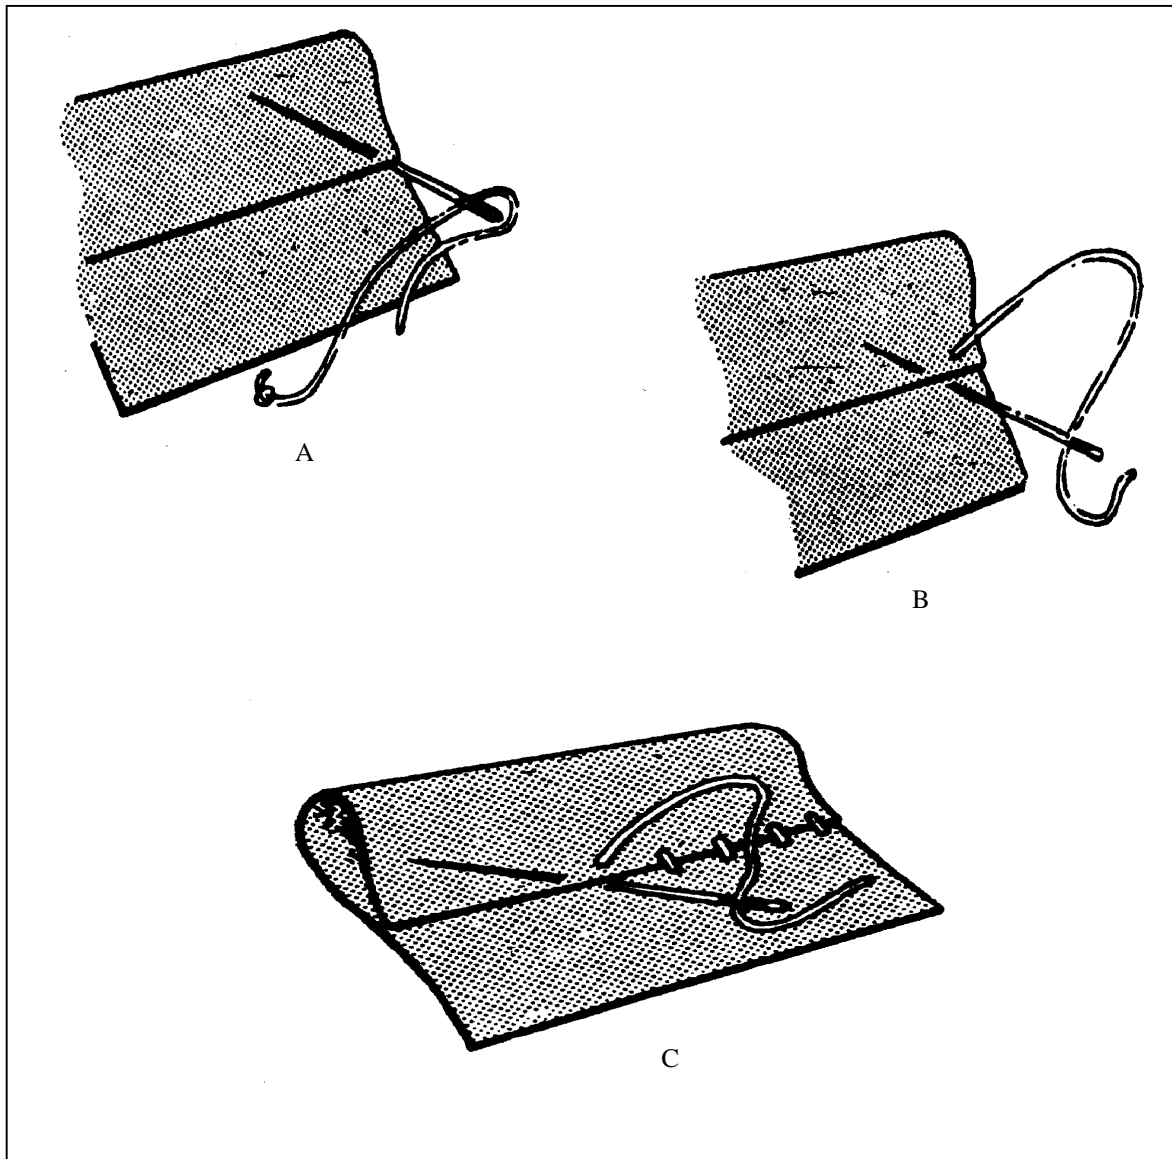

Figure 2-5. Felling stitch
b. Felling Stitch (Vertical Hemming or Overhand Stitch). The felling stitch (Figure 2-5) is a form of blind stitch used in most instances to hem or to hold two pieces of material together where a machine cannot satisfactorily operate, for example, sleeves on wool jackets. It is possible to sew the lining by machine; however, the machine sewn stitch through the sleeve would not present a neat military appearance. In some cases, the waistband on trousers are felled in by hand. The felling stitch can be used only on smooth edges where no thread has become unraveled. The rough edges of the fabric is turned under before stitching. The length of the felling stitch is determined by the job it has to perform; normally, the felling stitches should be  $1/8$  of an inch apart, depending on the type of work to be done.